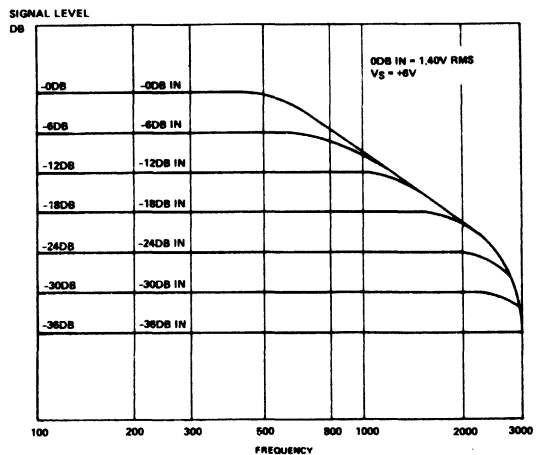

Figure 1 — Transfer Function for CVSD at 16KB
- For large signal amplitudes or high frequencies, the encoder may become slope-overloaded. Figure 1 shows the frequency response at various signal levels, measured with a 3kHz low-pass filter having a 130dB/octave roll-off to -50dB. See Table II.